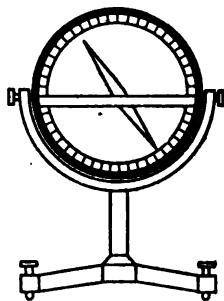

FIG. 185.—A dipping needle.
**211. The Dipping Needle.**—Mount an unmagnetized steel needle on a *horizontal* axis so as to be in neutral equilibrium, that is, so as to remain balanced in any position in which it is left. Upon being magnetized and placed so that it can swing in a north and south plane, the north-seeking pole will now be found to be depressed, the needle forming an angle of nearly  $70^{\circ}$  with the horizontal. (See Fig. 185.) The position assumed by the needle indicates that the earth's magnetic field instead of